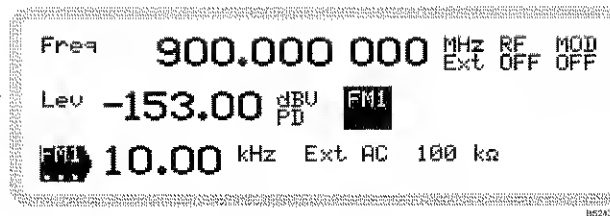

Fig. 3-71 FM1 main screen
- 2 Press **(SIG GEN)** to show the main screen, and touch the **[FM1]** soft box to select the function (Fig. 3-71).